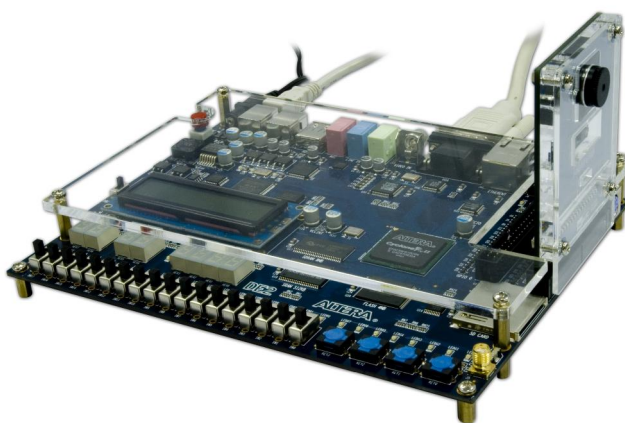

Figure 3.6. The Connection Setup for DE2 users
1. Ensure the connection is set correctly as shown in Figure 3.6. Make sure the D5M is connected to **JP2 (GPIO 1)** of the DE2 board.